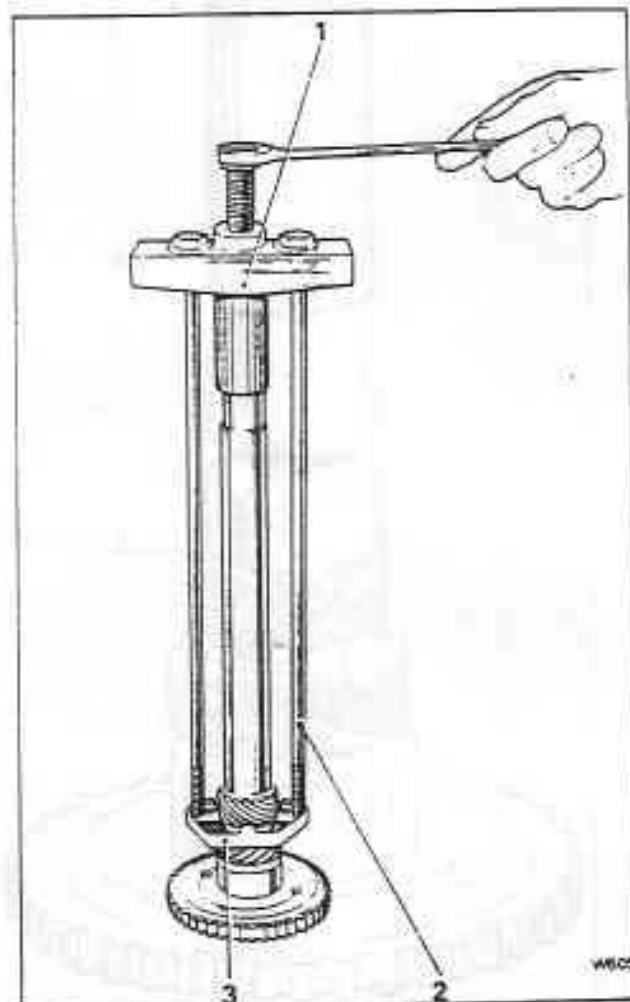

Fig. T19-10 Removing a steel speedometer drive gear
2. If a **steel gear** is fitted to the shaft, install the speedometer drive gear removal tools (J-21427 and J-9578) (see fig. T19-10).